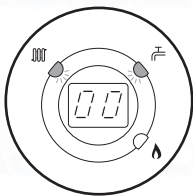

Fig. 78
6. The display will show '00', indicating maximum rate, then revert to 'P' alternating with the current boiler temperature (Figs. 78, 79 & 80).